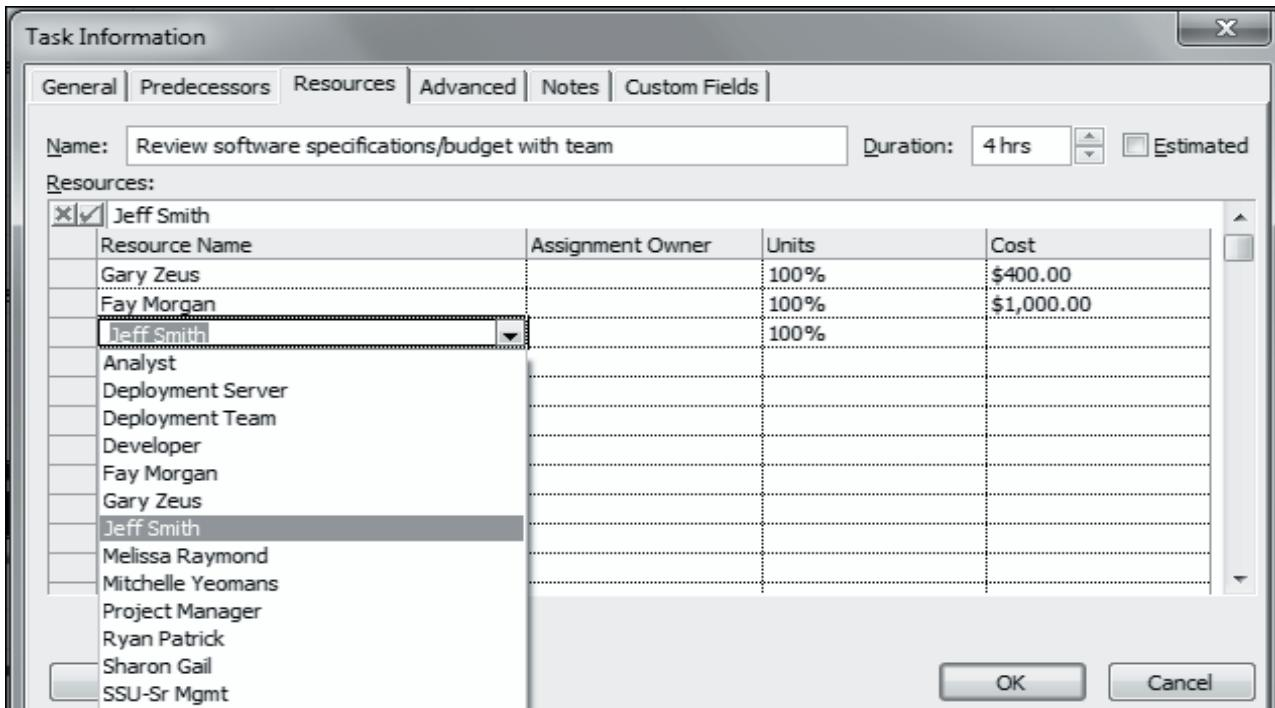

Figure 8.7: Selection of Resources from Task Information Dialog Box
- On the **Resources** tab, click in a blank cell in the **Resource Name** column and select a resource from the drop-down list. For a **work** or **material** resource, click in the **Units** column and specify in percentage, the units of resources assigned to the task, as shown in figure 8.7.
Figure 8.7 illustrates selection of resources from the **Task Information** dialog box.